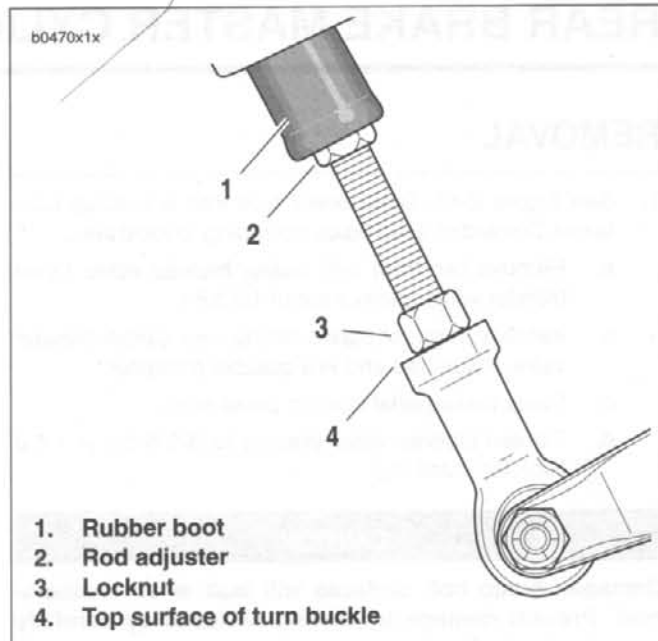
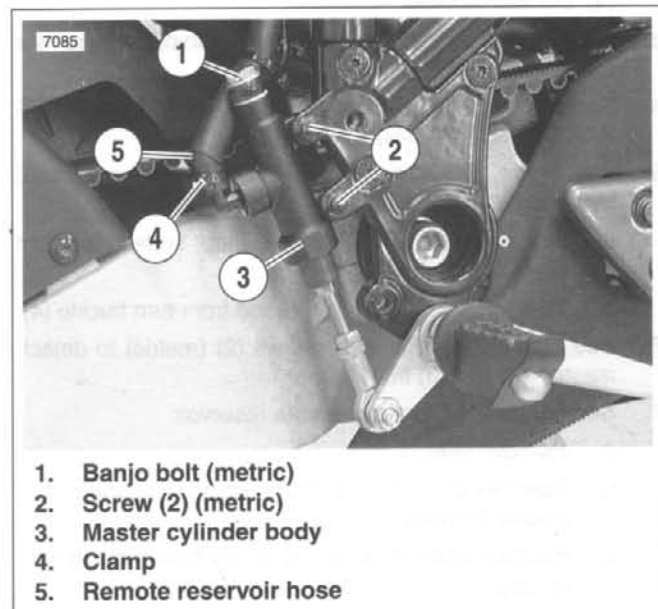

Figure 2-45. Brake Push Rod
Figure 2-46. Master Cylinder Mounting
5. See Figure 2-45. Disconnect push rod from brake pedal turn buckle (4).
- a. Spin locknut (3) away from top surface of turn buckle.
- b. Turn rod adjuster (2) to free rod from turn buckle (4).
6. See Figure 2-46. Remove screws (2) (metric) to detach master cylinder (3) from frame.
2. See Figure 2-46. Attach master cylinder (3) to frame. Apply **LOCTITE THREADLOCKER 243** (blue) to both screws (2) (metric). Tighten to 8-10 **ft-lbs** (10.8-13.6 Nm).
4. See Figure 2-45. Install push rod.